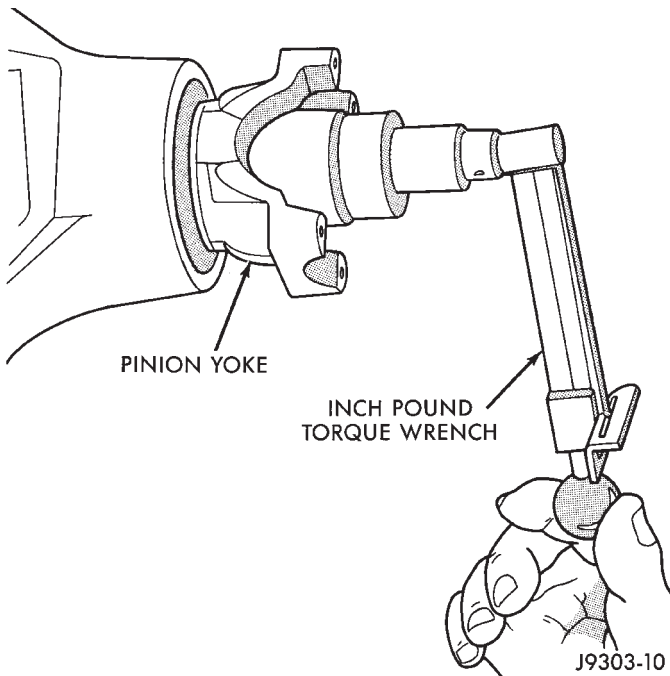

Fig. 12 Check Pinion Rotation Torque
(5) Rotate the pinion shaft using a (in. lbs.) torque wrench. Rotating torque should be equal to the reading recorded during removal plus an additional 0.56 N·m (5 in. lbs.) (Fig. 12).